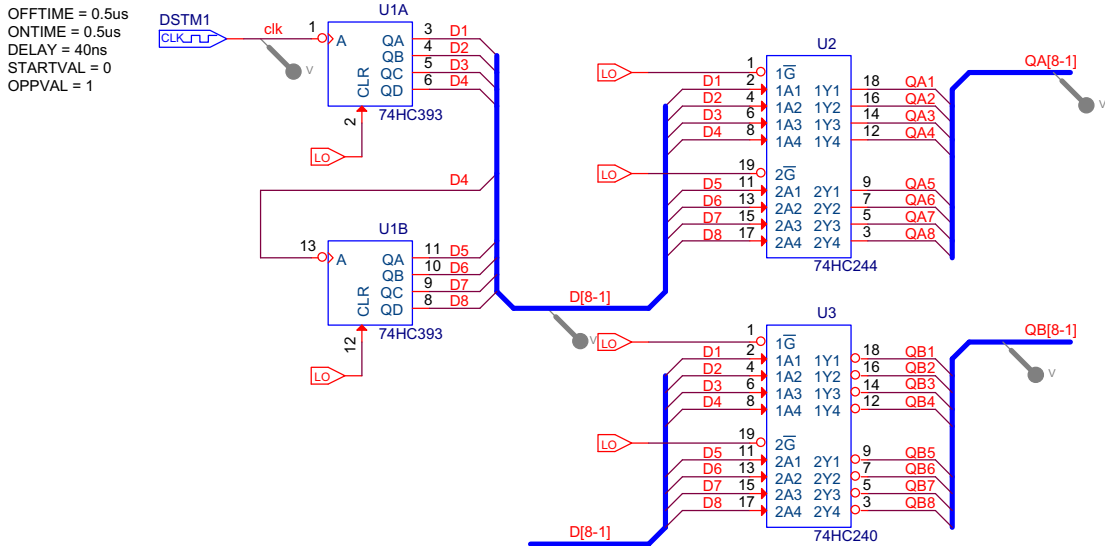

FIGURE 18.10
The circuit in Figure 18.10 is an example of how to connect signals to a bus and how to select the different A and B sections of an IC. A clock signal is divided down by two 4-bit binary counters, U1A and U1B, and then passed to two octal buffers, U2 and U3, via an 8-bit bus. U3 is an inverting octal buffer.
2. Place the parts for the circuit in Figure 18.10 but do not connect the wires or bus yet. DSTM1 is a DigClock source from the **source** library and the HC devices can be found in the 74 HC library. The HI and LO symbols are from the **Place > Power** menu.
4. Starting with U1A pin 3, place a bus entry on the bus as shown in Figure 18.10. Draw a wire from the bus entry to pin 3 of U1A.
8. Select **Place > Auto Wire > Connect to bus**  and wire up the rest of the IC pins as in Figure 18.10.